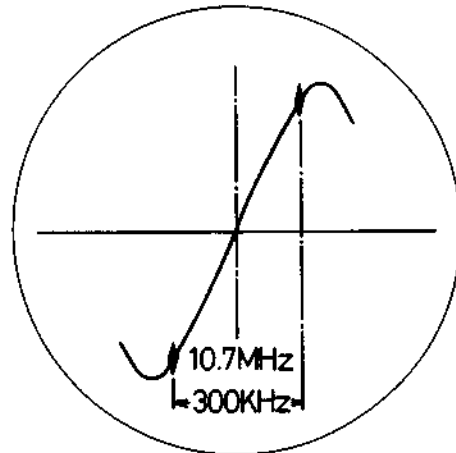

Fig. 3
- (c) Then change the output lead of the Sweep Generator to FM Antenna Terminal; also the input of the Oscilloscope to test point (out) and (E) on the IF Board (2007). Adjust the core of L-104 (Front end), T-201 (upper and lower) and the upper core of T-204 to obtain the waveform shown in Fig. 3. Adjust to maximum amplitude and proper linearity between \pm 150 KHz markers.